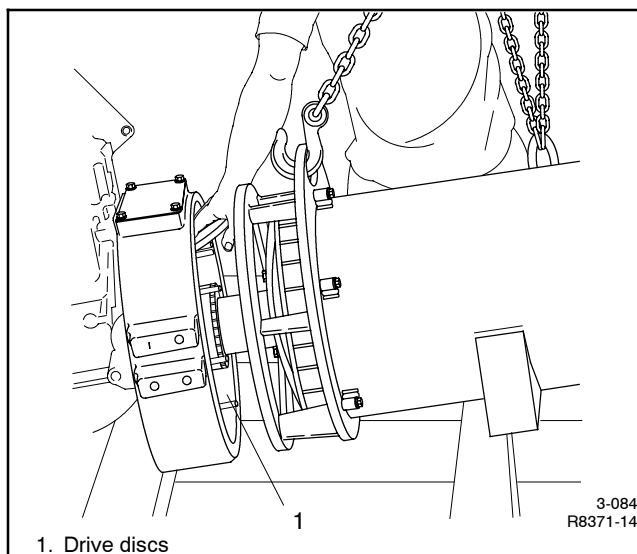

Figure 4-4 Separating Alternator and Engine
11. Work the drive discs over the studs (if equipped) to separate the alternator from the engine. See Figure 4-4.